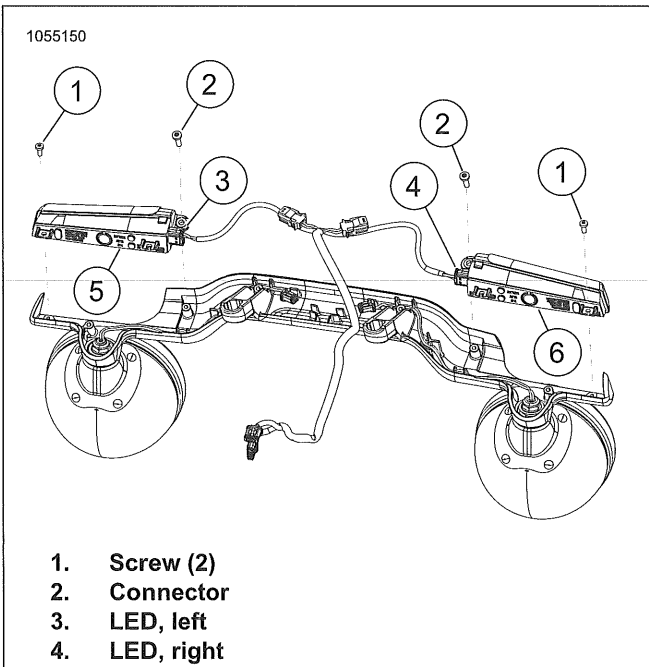

Figure 7-70. Lightbar LED Signal
- 5. See Figure 7-70. Remove screw (1).
- 7. Disconnect connector (2).
- 1. See Figure 7-70. Connect connector (2).
3. Install screw (1). Tighten.